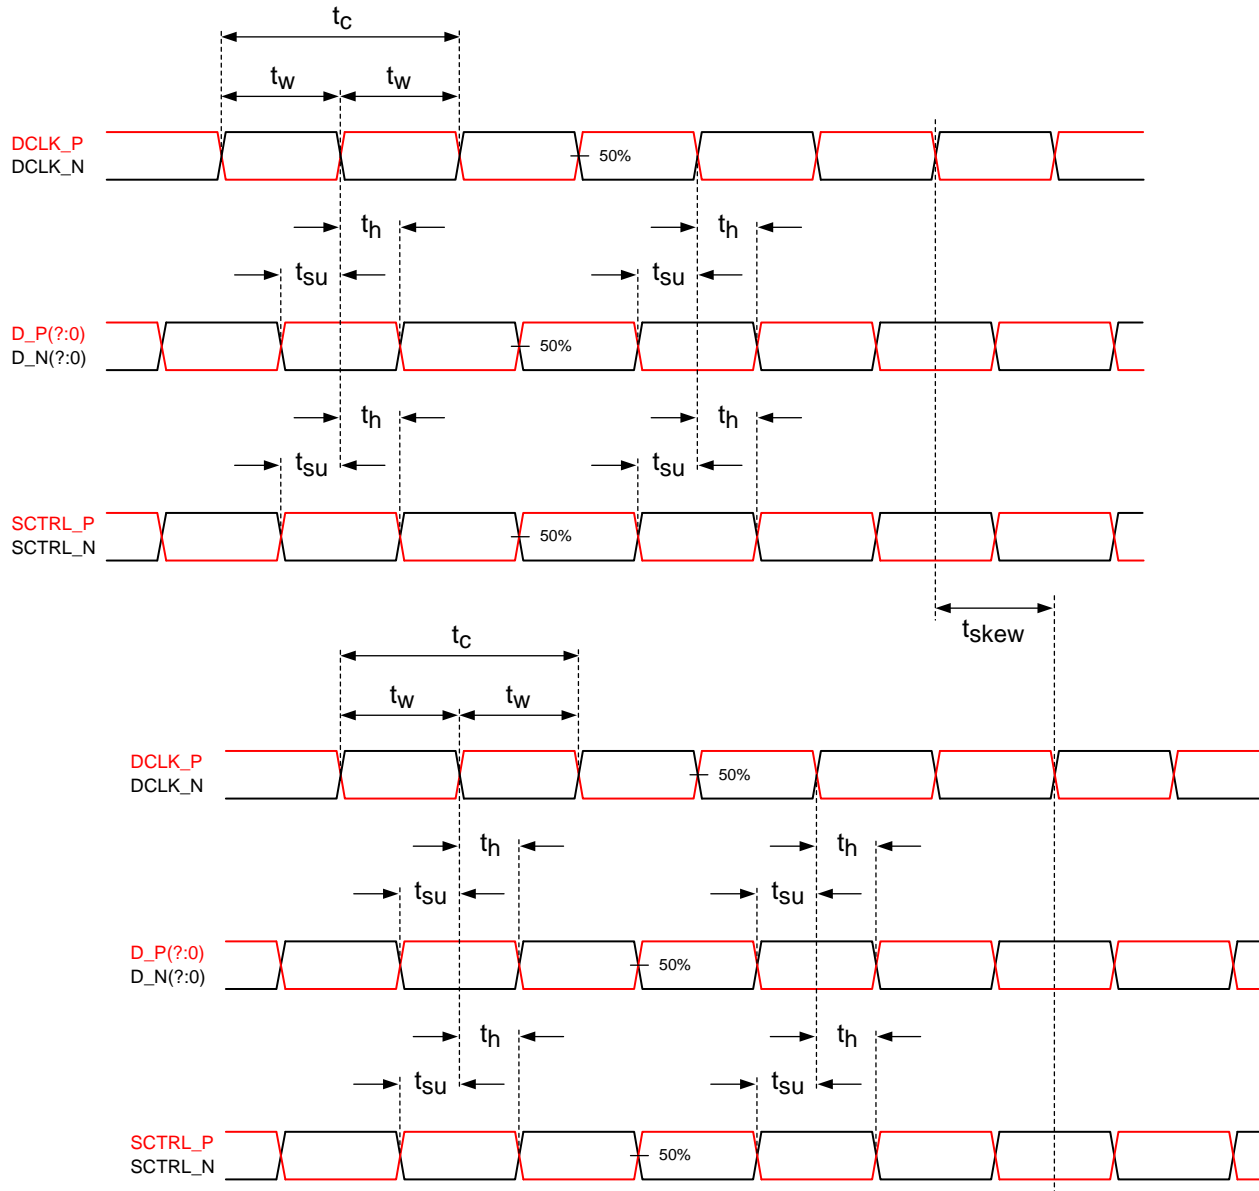

Figure 6. Timing Requirements
(9) See LVDS Timing Requirements in Timing Requirements and Figure 6.